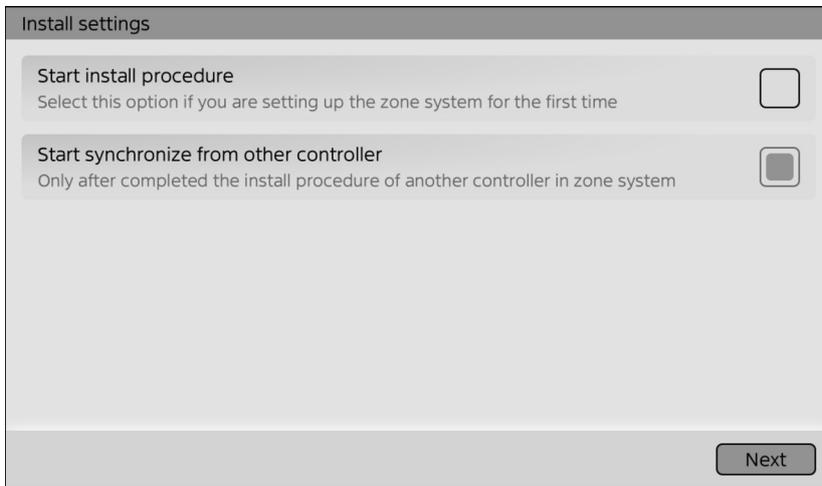

Fig 2.1
1. Choose the **[Start synchronize from other controller]** option on the slave Touch controller after the master touch controller installation process is complete (refer to Fig 2.1).